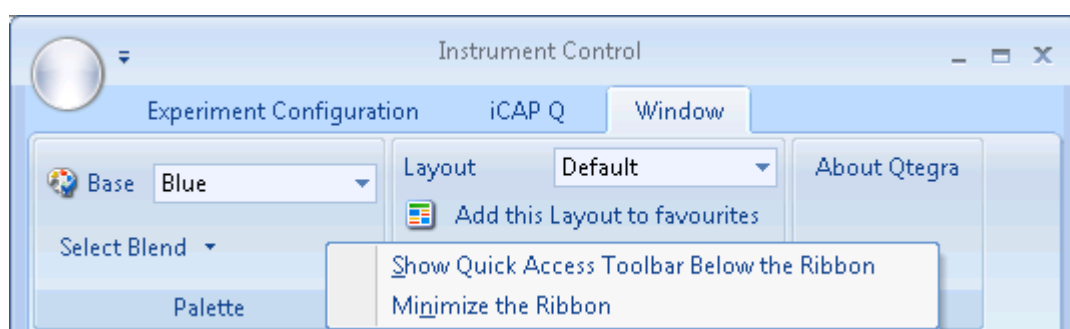

Figure 4-2. Window ribbon of Instrument Control tool
3. Right-click anywhere in the ribbon to display the context menu, see Figure 4-2.